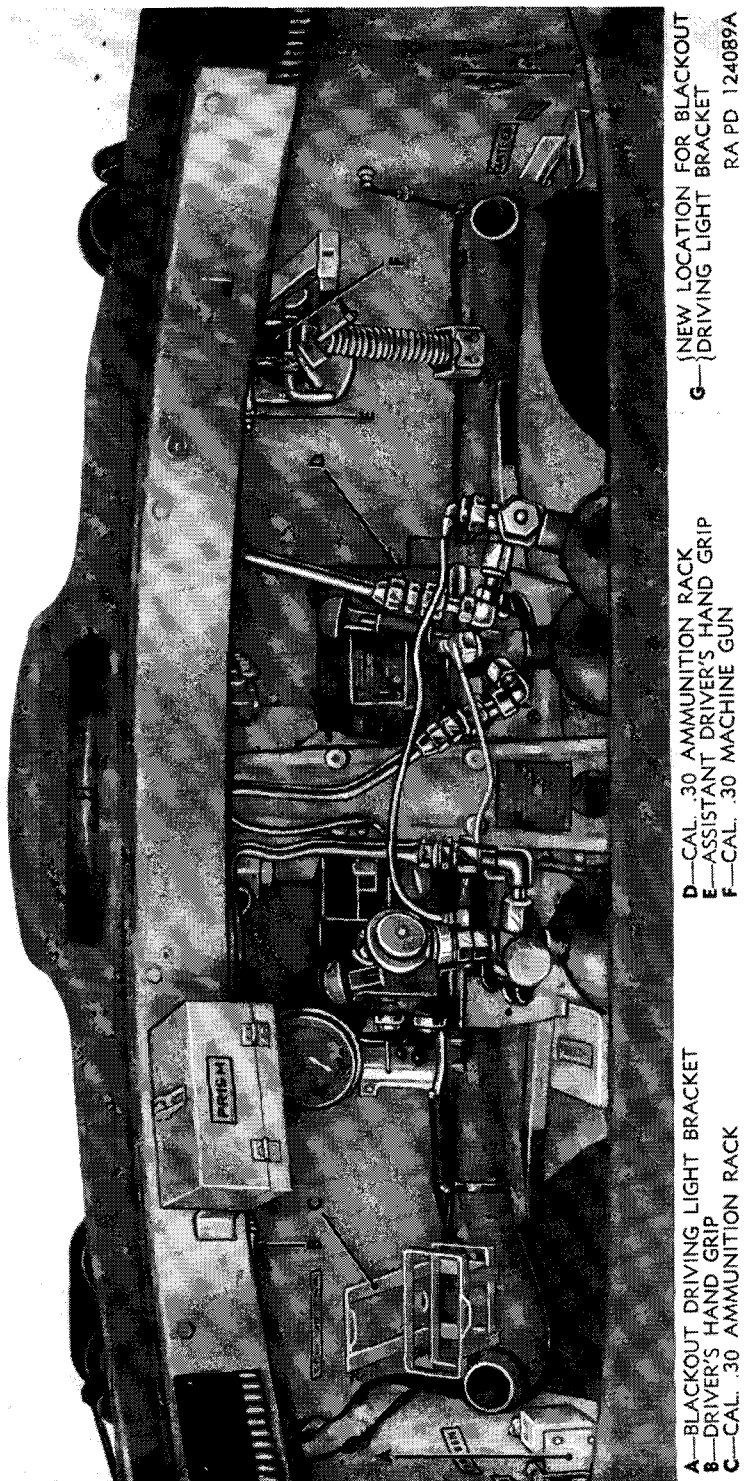

Figure 20. Parts to be removed from inside front wall of vehicle.
- a.* Remove the cal. .30 machine gun (fig. 20) from the bow mount in front of the assistant-driver's seat by first loosening the wing nut and removing the traveling lock; then remove front locking pin and lift out gun. Remove all mount parts, cutting away those parts welded to front and top of the hull (fig. 20).
- b.* Cut away the driver's and assistant-driver's hand grips from the top of the hull (B and E, fig. 20).
d. Cut away the cal. .30 ammunition rack that is located on the front wall to the left of the assistant driver's seat (C, fig. 20).
e. Cut away the blackout-driving-light bracket from the wall to the left of the driver (fig. 20).